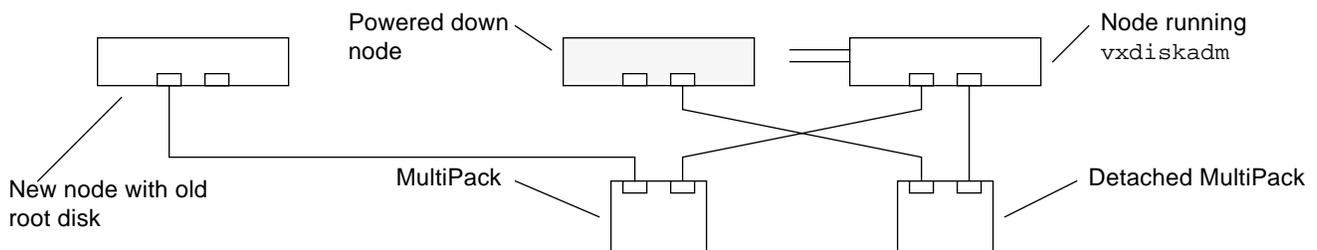

Figure 7-5 Second MultiPack Detached
12. Use the running node to detach the next MultiPack (Figure 7-5).